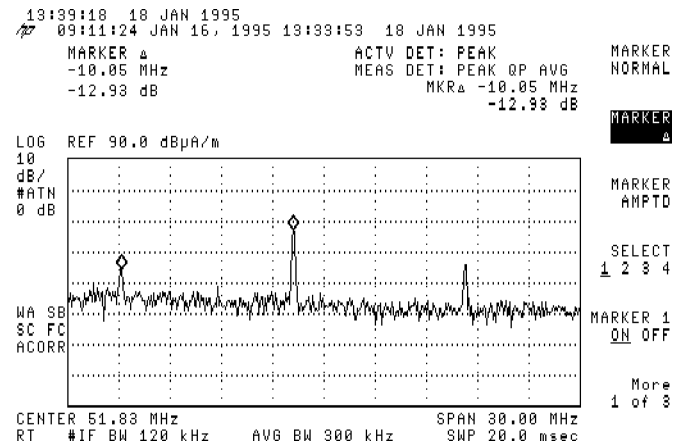

Figure 7-8. Measuring the harmonic interval.
26. Measure the harmonic interval using the marker delta function and scroll to the next peak of interest. Record the interval. Refer to Figure 7-8.